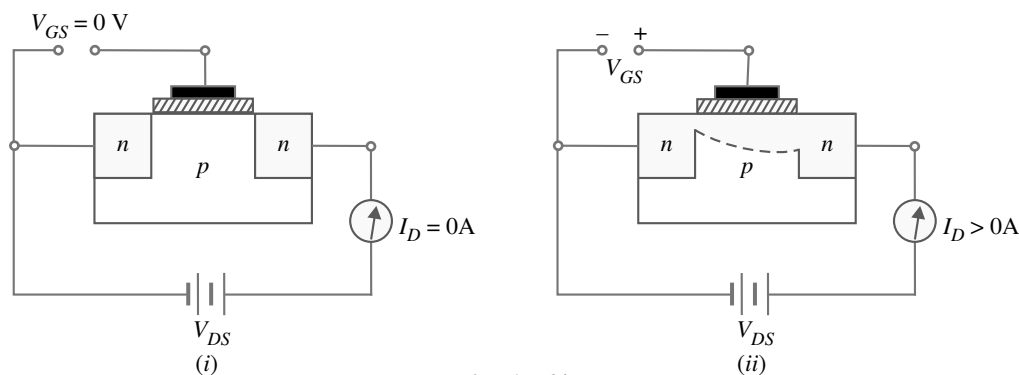

Fig. 17.64
Two things are worth noting about *E-MOSFET*. First, *E-MOSFET* operates *only* in the enhancement mode and has no depletion mode. Secondly, the *E-MOSFET* has no physical channel from source to drain because the substrate extends completely to the  $\text{SiO}_2$  layer [See Fig. 17.64 (i)]. It is only by the application of  $V_{GS}$  (gate-to-source voltage) of proper magnitude and polarity that the device starts conducting. The minimum value of  $V_{GS}$  of proper polarity that turns on the *E-MOSFET* is called *Threshold voltage* [ $V_{GS(th)}$ ]. The *n*-channel device requires positive  $V_{GS} (\geq V_{GS(th)})$  and the *p*-channel device requires negative  $V_{GS} (\geq V_{GS(th)})$ .
**Operation.** Fig. 17.64 (i) shows the circuit of *n*-channel *E-MOSFET*. The circuit action is as under :
(i) When  $V_{GS} = 0\text{ V}$  [See Fig. 17.64(i)], there is no channel connecting the source and drain. The *p* substrate has only a few thermally produced free electrons (minority carriers) so that drain current is essentially zero. For this reason, *E-MOSFET* is normally OFF when  $V_{GS} = 0\text{ V}$ . Note that this behaviour of *E-MOSFET* is quite different from *JFET* or *D-MOSFET*.
(ii) When gate is made positive (i.e.  $V_{GS}$  is positive) as shown in Fig. 17.64 (ii), it attracts free electrons into the *p* region. The free electrons combine with the holes next to the  $\text{SiO}_2$  layer. If  $V_{GS}$  is positive enough, all the holes touching the  $\text{SiO}_2$  layer are filled and free electrons begin to flow from the source to drain. The effect is the same as creating